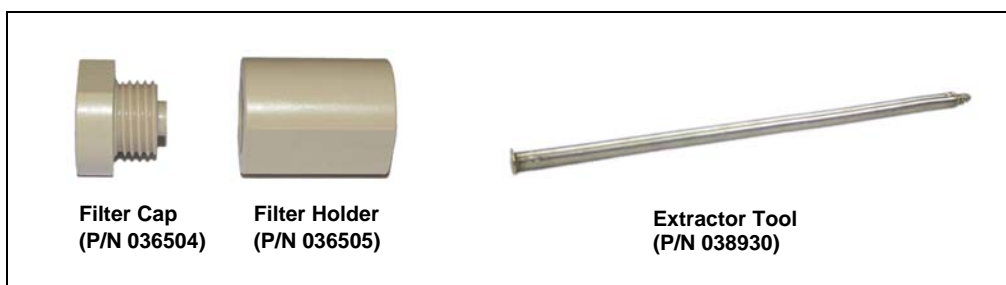

Figure 2. Filter Cap, Filter Holder, and Extractor Tool
**NOTE** Periodically, check the topmost filter disk for discoloration. Unscrew the filter cap from the filter holder (see Figure 2). If the disk is discolored, replace both filter disks (see Section 3).
1. Unscrew the filter cap from the filter holder (see Figure 2).
**NOTE** Periodically, check the topmost filter disk for discoloration. Unscrew the filter cap from the filter holder (see Figure 2). If the disk is discolored, replace all filter disks (see Section 3).